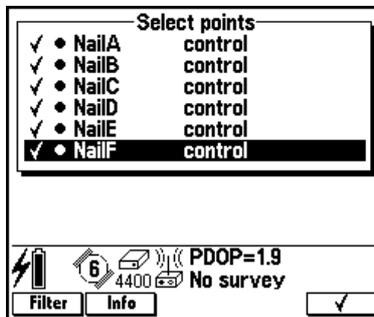

Figure 3.8 Select points screen – Trimble Survey Controller software database
- b. From this list, choose how points are to be selected. Choose *Select from list*. The *Select points* screen appears, see Figure 3.8. This time, it displays a list of points in the Trimble Survey Controller software database.